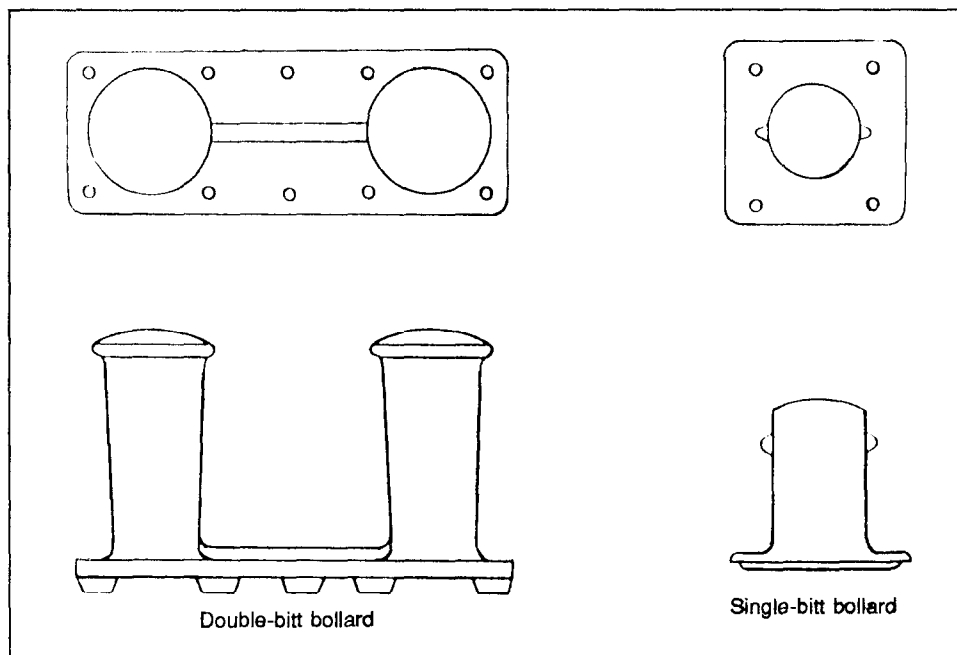

Figure 9-1. Single- and Double-Bitt Bollards
a. Bollards. Whether single- or double-bitt, bollards are steel or cast-iron posts (Figure 9-1) to which large ships tie up. To prevent ships' lines from riding up off the post, bollards may have waists smaller than their tops, or they may have caps or projecting, rounded horns. Double bitt bollards are also known as double steamship bitts or simply as double bitts. Bollard bodies may be hollow for falling with concrete after installation. Bollards were once designed to take line pull loads of about 35 tons. Modern container ports usually have bollards with 100-ton line pull capacities.